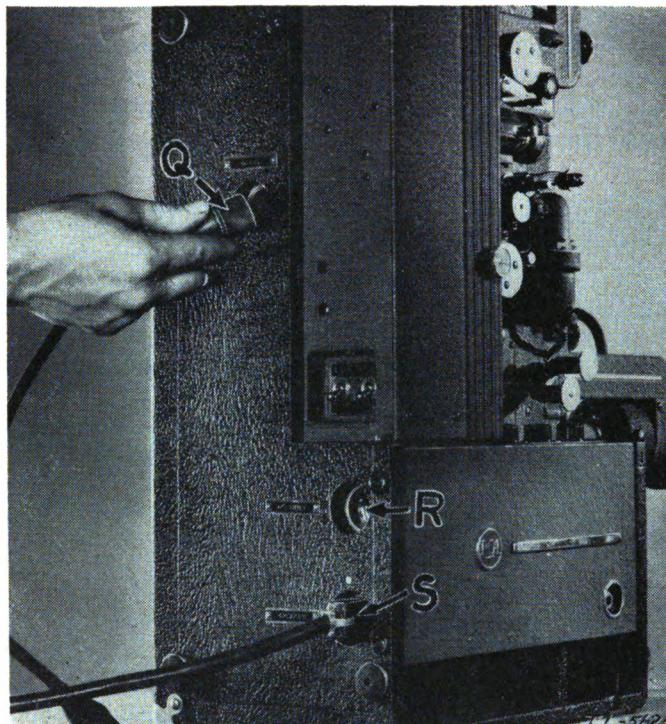

FIGURE 14.—*R. C. A.* electrical connections.
(4) *R. C. A.*—Plug the *Y*-ends of the *Y*-power cable into the *Q* (AC-DC) and *R* (AC-ONLY) receptacles (fig. 14) located on the back of the projector. Insert the plug on the other end of the power cable in the power source receptacle. Connect speaker to projector by inserting speaker cable plug in receptacle *S*.